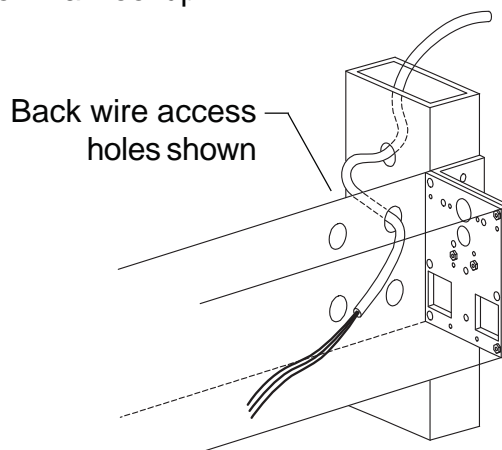

Figure 3-5
- 3.6.** Feed the 240 volt power conduit into the header (Figure 3-5). Leave 12" minimum of wire inside the header for final hookup.